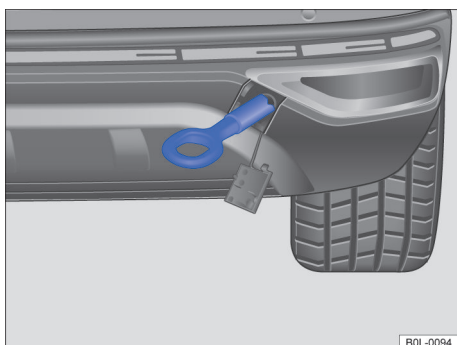

Fig. 130 In the rear bumper on the right: screwing in the towing eye
- Turn the towing eye **as shown by the arrow in to the threaded hole** and tighten as far as possible → Fig. 130 → **D**. Use a suitable object to screw the towing eye fully and securely into the mounting.